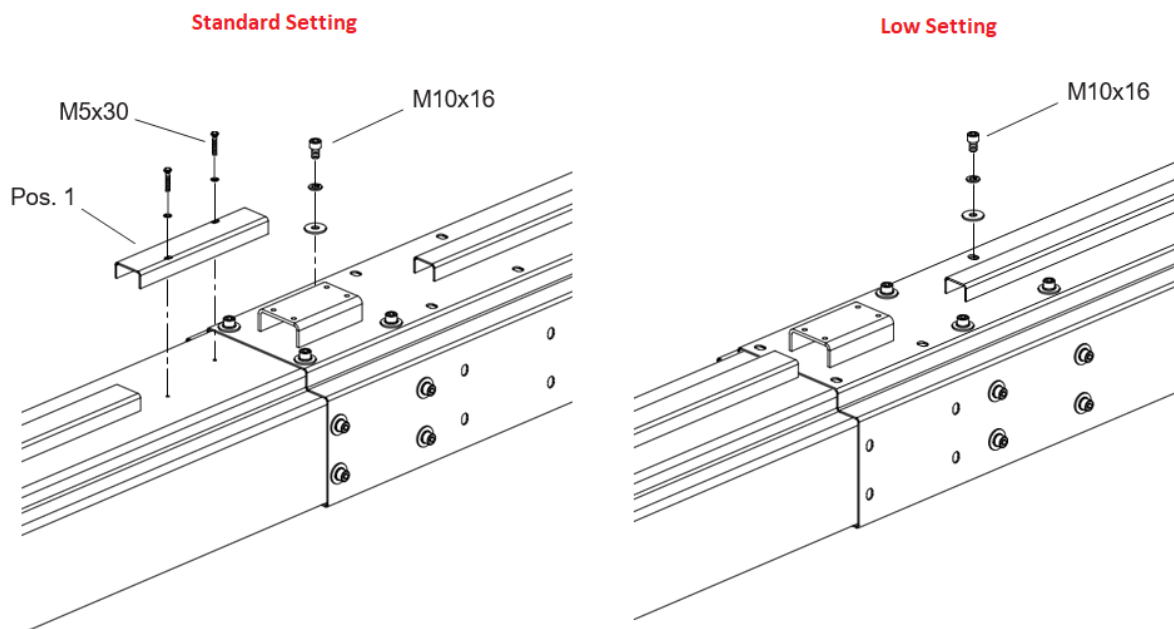

Figure 3
**NOTE!** The hoist arrives with the cables set for the **Standard** height and standard width configuration. If post extensions are fitted in **Standard** position the extra cable covers (Figure 3) must be fitted on both posts. (Not required in **Low** position)